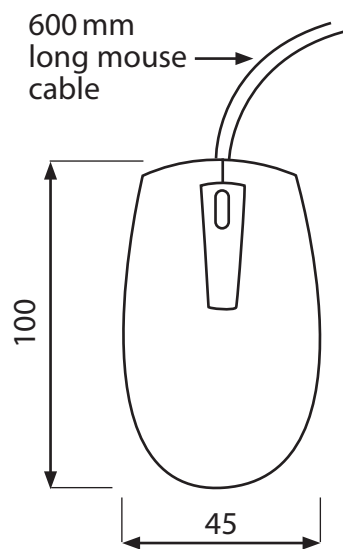

Figure 8
- 5 Figure 8 shows a design solution for a laptop case together with some additional information.